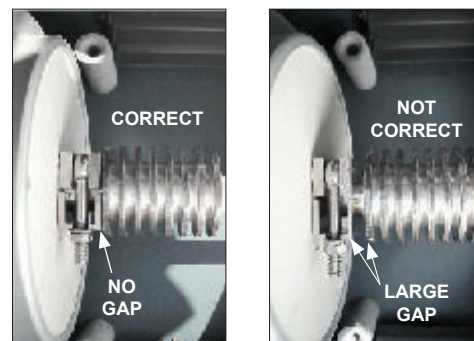

Figure 5-5 Lamp Tube Terminal Positioning in Clamp
10) Locate the new lamp tube in the terminal clamps as indicated below in Figure 5-5. The lamp tube terminals/heatsinks must be located against the terminal clamp with no gap. This allows the lamp tube to expand when heated.